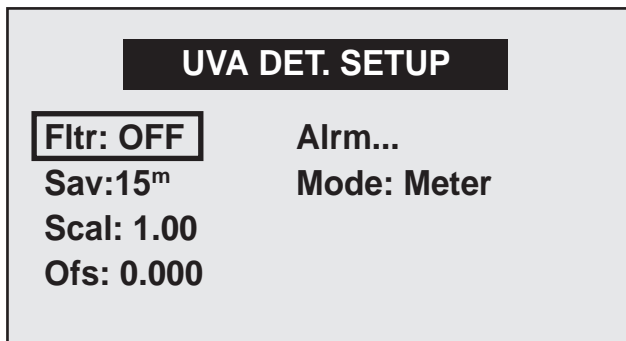

Figure 3 Meter Setup Menu
- 2] Make sure the detector is in Meter mode. (See figure 3)
- 2] Press the SETUP key F3. The detector setup menu will appear as in Figure 3.